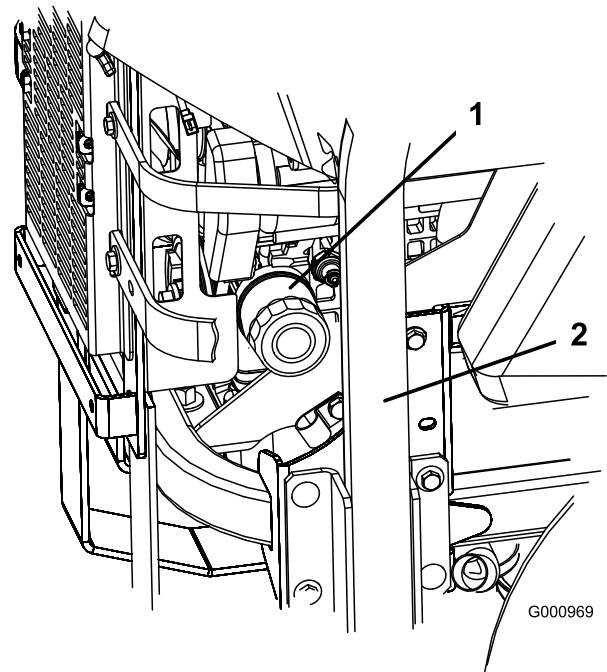
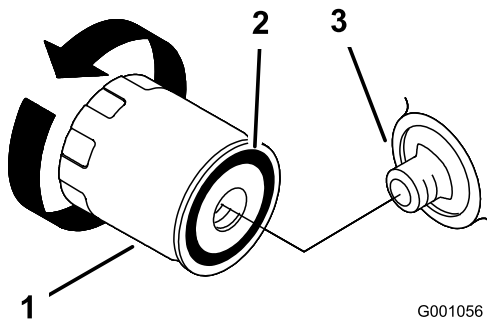

Figure 48
Figure 49
2. Turn the filter counterclockwise to remove it (Figure 48 and Figure 49).